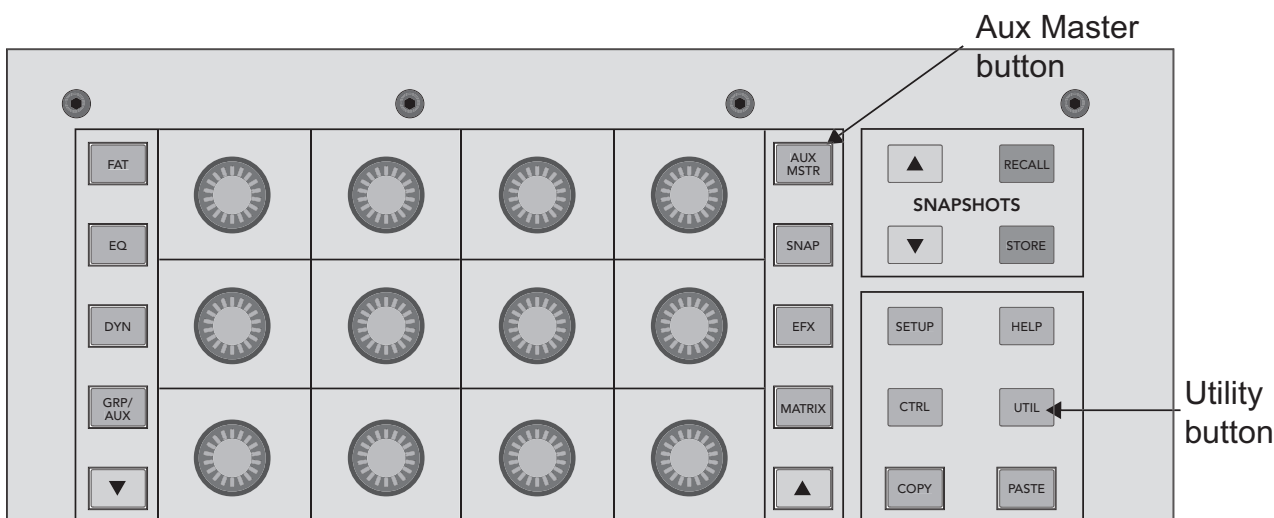

Figure 3-4 QuickMix area
15. Press the **AUX MSTR** QuickMix button (Figure 3-4).
2. Press the **UTIL** button (Figure 3-4).
1. Display the Aux masters by pressing the **AUX MSTR** button (Figure 3-4) to the right of the QuickMix knobs.